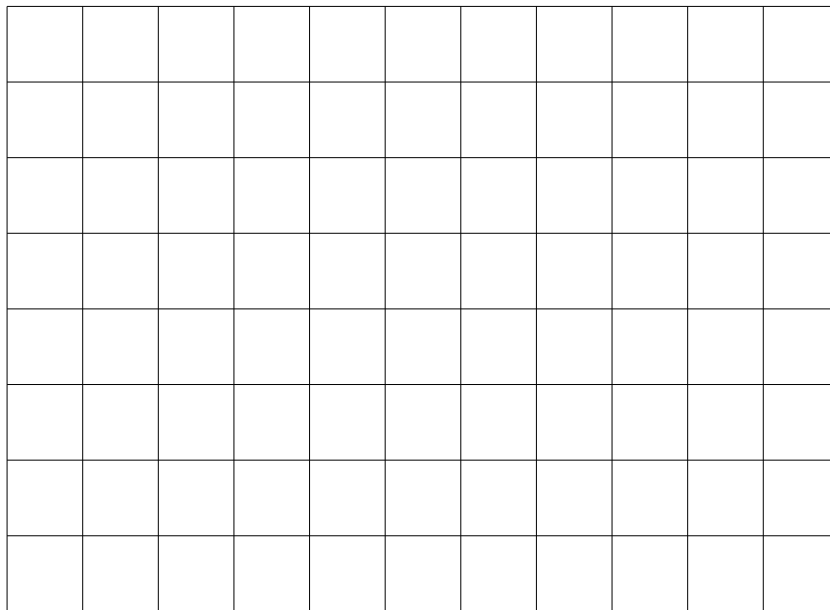

**Figure 14:** First-order RC circuit
Consider the circuit shown in Fig. 14.
- 3.1.2 Construct the RC circuit shown in Fig.14 on your breadboard. The red terminal of the signal generator output should be used to supply  $V_S$  and the black terminal should be connected to the ground rails on the breadboard. Connect the **Channel 1** and **Channel 2** oscilloscope probes to  $V_S$  and  $V_C$ . Connect both probe ground clips to the same signal ground (the same circuit node as the black terminal of the signal generator output, the ground symbol is attached for your reference). By viewing **Channel 1** on your oscilloscope, adjust the signal generator to supply a 50 Hz square wave of  $\pm 1V$  peak amplitude.
3.1.10 Now replace the capacitor in Fig. 14 with either  $220\text{pF}$  or  $120\text{nF}$  capacitor. Choose any resistance from the available set and compute the time constant and the minimum frequency of the square wave needed to properly show the results. Show your calculations in the space provided below. **[1 marks]**
**Table 3:** Voltage measurement from the Voltmeters in Fig. 10 and Fig. 14.